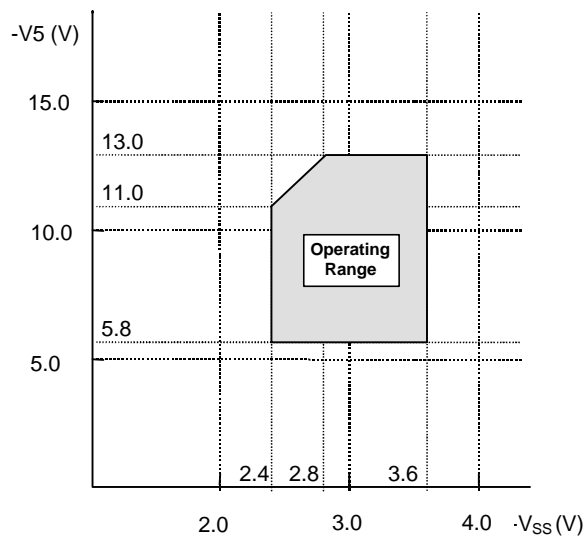

Figure 12  $V_{SS}$ - $V5$  Operating Voltage Range
- Note 21 The operating voltage range when Vss and V5 are used as voltage (see Figure 12).